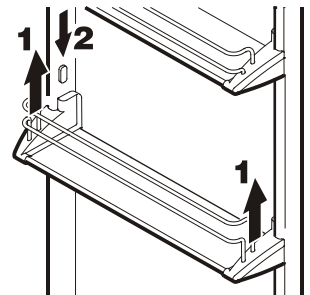

Figure 8
### Repositioning the door racks - Figure 8
- Remove the door racks as shown in *Figure 8, 9*.